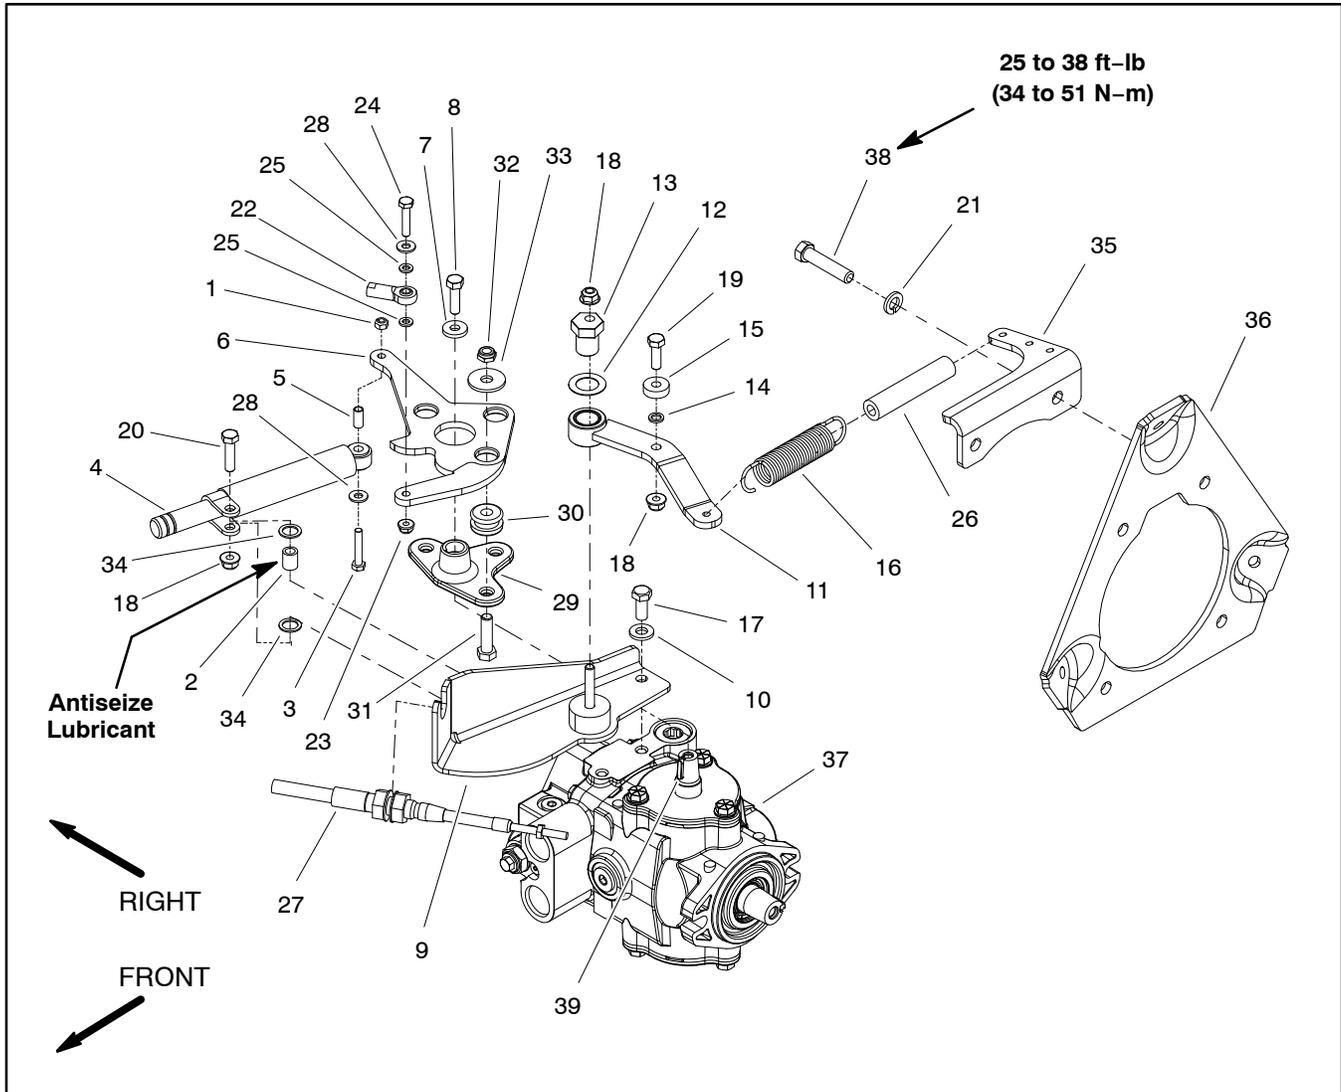

Figure 40
Disassembly (Fig. 40)
2. Remove components from traction neutral assembly as needed using Figure 40 as a guide.
Assembly (Fig. 40)
1. Install removed components to traction neutral assembly using Figure 40 as a guide along with the following: